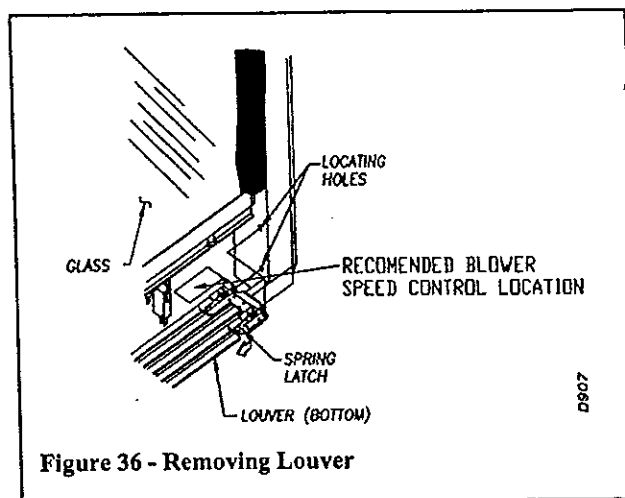
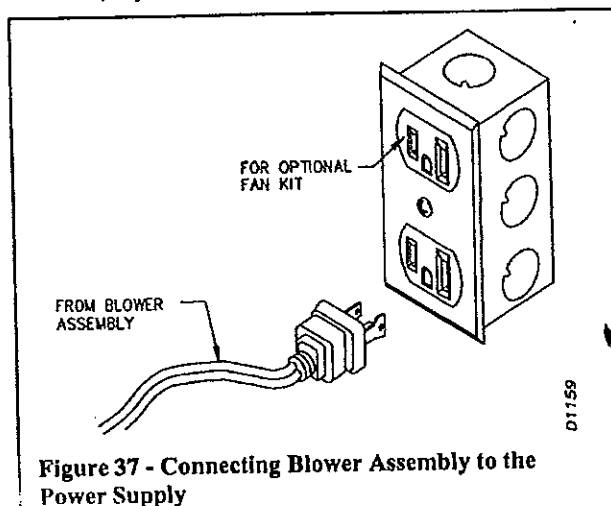

Figure 36 - Removing Louver
Figure 37 - Connecting Blower Assembly to the Power Supply
1. To remove the lower louvers simultaneously pull both top end spring latches towards the center of the appliance until they are disengaged from the locating holes. Repeat for the bottom spring latches and pull the louvers outward (see Figure 36).
An outlet box with two receptacles has been provided for your convenience and is located on the lower right side of the appliance (see Figure 37). The variable speed controller is mounted on a magnetic base and may be positioned anywhere within an accessible distance behind the louvered opening (see Figure 36).
1. Remove lower louver access panel from fireplace (see Figure 36 on page 15).
2. Disconnect the wall switch wires from the terminals marked TH and TPTH on the (see Figure 36 on page 15).
1. To remove louvers follow the instructions on page 15. Refer to Figure 36.